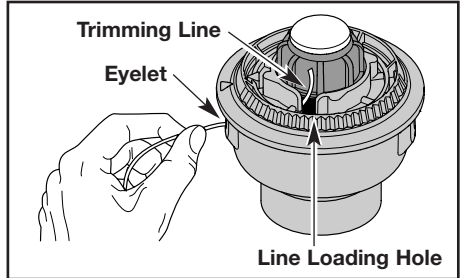

Fig. 11
NOTE: Before installing new trimming line onto the existing inner reel, remove any old line from the SpeedSpool by pulling the line out of the line loading or locking holes (Figs. 11 and 12).
2. Insert **10 feet (2.5 m) of .080 in (2.03 mm) trimming line** into one of the two eyelets and push it up through the line loading hole in the inner reel (Fig. 11). Do not bend the line when inserting it into the eyelet.